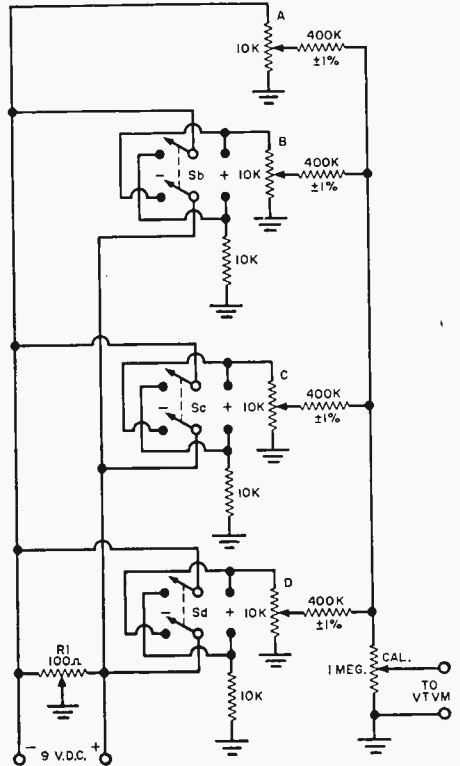

Fig. 4. Four-number adder-subtractor unit.
**Figure 4.** With this four-number add-subtractor circuit, you can solve problems like  $(1.2 + 4.6 - 7.2 + 9.6)$  in one setup. Balance control *R1* is adjusted for equal positive and negative voltages from ground to potentiometer *R1* end terminals. The "add-subtract" switches *Sb*, *Sc*, and *Sd* allow the polarity of the voltage to the respective pots to be changed so that the numbers represented may be made positive or negative. Currents through the 400,000-ohm resistors are proportional to the potentials at the potentiometer arms. The currents flow through the 1-meg. calibration pot where they are summed.